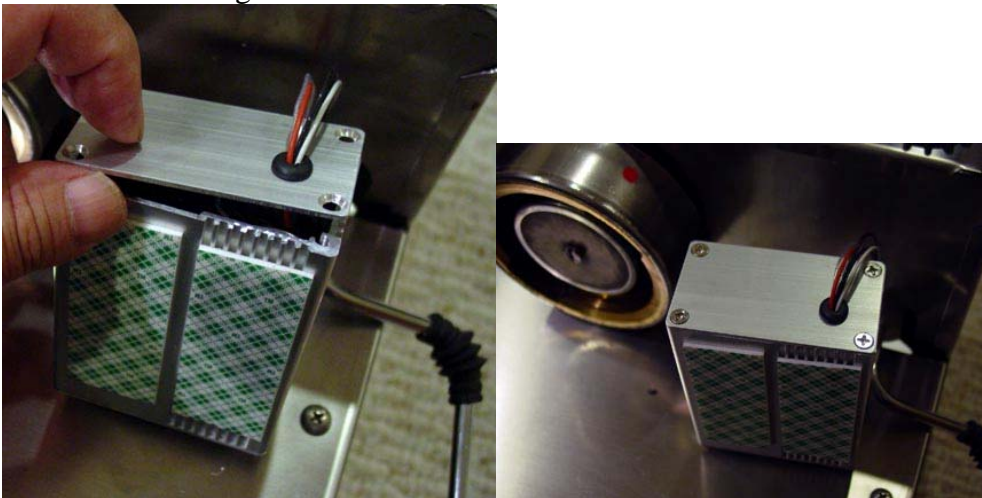

Figure 19. Left, press the back panel on with a little force. Right, screw is on.
- 5) Install the controller to the box. Screw the front panel first. Make sure the surface of the box with double sided tape is on top of the controller. Then, gently pull out the cable from the back panel of the box until it is stopped by strain relief. Screw on the back panel. Make sure the rubber grommet is on the right upper corner (viewing from front) position as shown in Fig. 19.